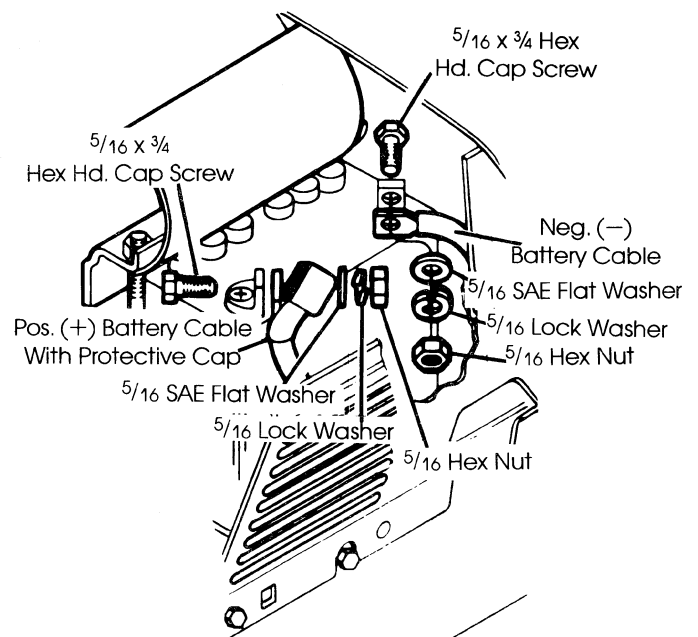

FIG. 2
- C. Install the positive battery cable (with protective cap) Fig. 2, to positive battery terminal (+). Tighten securely. Refer to illustration for correct hardware to use.
- D. Install the negative battery cable, Fig. 2, to negative battery terminal (-). Tighten securely. Refer to illustration for the correct hardware to use.